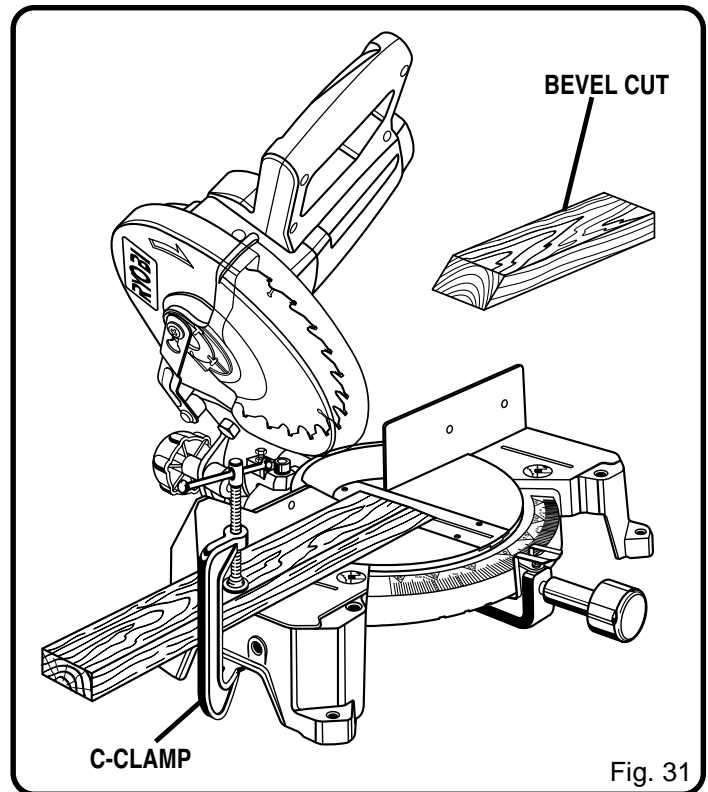

Fig. 31
- Grasp the stock firmly with one hand and secure it against the fence. Use the optional work clamp or a C-clamp to secure the workpiece when possible. See Figure 31.
- Slowly lower the blade into and through the workpiece. See Figure 31.